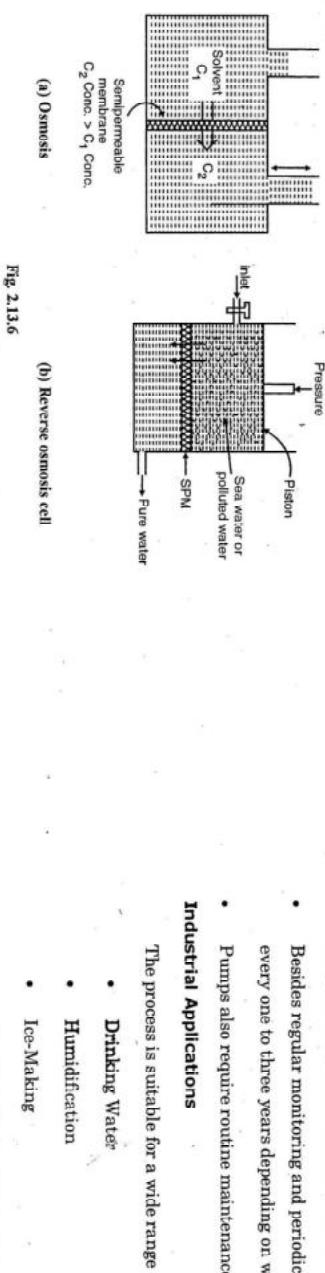

Fig. 2.13.6
- Normal osmosis process* is shown in Fig. 2.13.6, where the solvent flows from *low concentration* solution to *higher concentration* solution, through the semipermeable membrane, until difference in water levels creates a sufficient pressure to counteract the original flow. The difference in levels represents *osmotic pressure* of the solution.